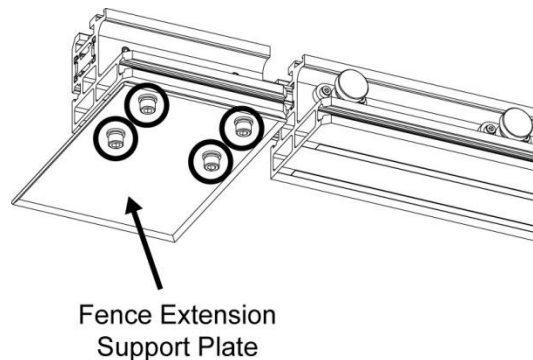

Fig. 14
18. Check the miter gauge angle indicator. If the reading is not 0 degrees, loosen the indicator lens mounting screw (245) and adjust the position of the indicator to read 0 degrees. Retighten the mounting screw.
19. Mount the Fence Extension Support Plate (202) to the bottom of the Fence Extension using four M6 Cap Screws (203), M6 Lock Washers (115) and M6 Flat Washers (116) as shown in **Fig. 14**.